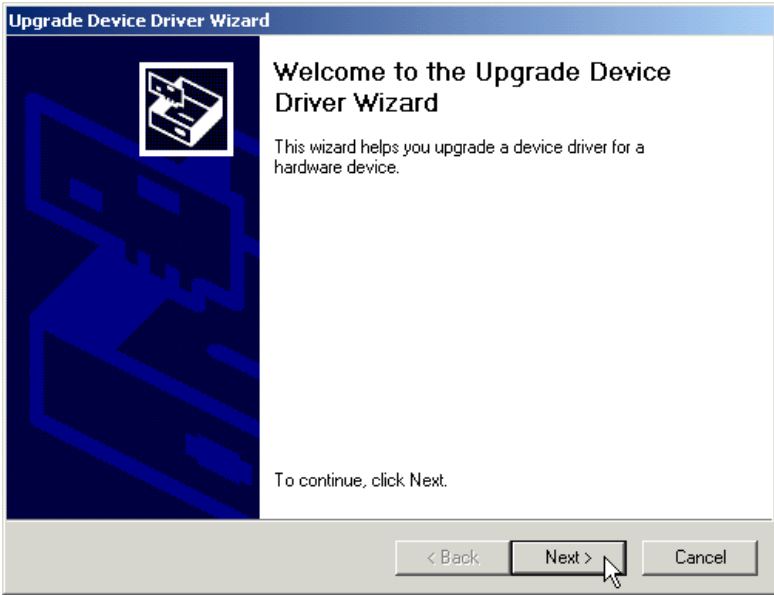

Figure 38. Upgrade driver welcome screen
- 9 Press **Next** on the **Upgrade Device Driver Wizard**. (See Figure 38.)